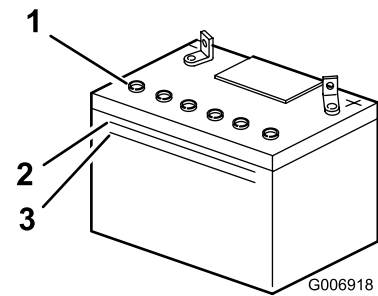

Figure 26
2. Look at the side of the battery. The electrolyte should be up to the Upper line (Figure 26).
Note: Do not allow the electrolyte to fall below the Lower line (Figure 26).
3. Remove the vent caps from the battery (Figure 26).
4. Slowly pour distilled water into each battery cell until the electrolyte level is up to the Upper line (Figure 26) on the battery case.
level is up to the Upper line (Figure 26) on the battery case.